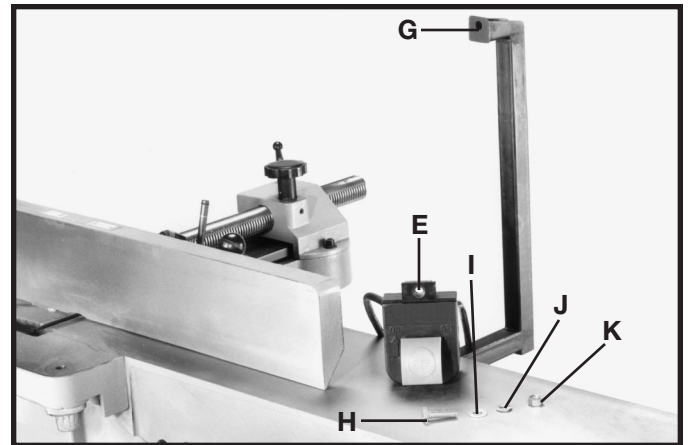

Fig. 23
2. Align the hole (E) Fig. 23 in the switch, with the hole (G) in the mounting bracket. Place an 11/32" flat washer (I) Fig. 23, on a 5/16-18x1" hex head screw (H). Insert the screw through the hole in switch (E) and hole (G) in the mounting bracket. Place a 5/16" lockwasher (J) on screw (H). Thread a 5/16-18 hex nut (K) on the screw and tighten securely.